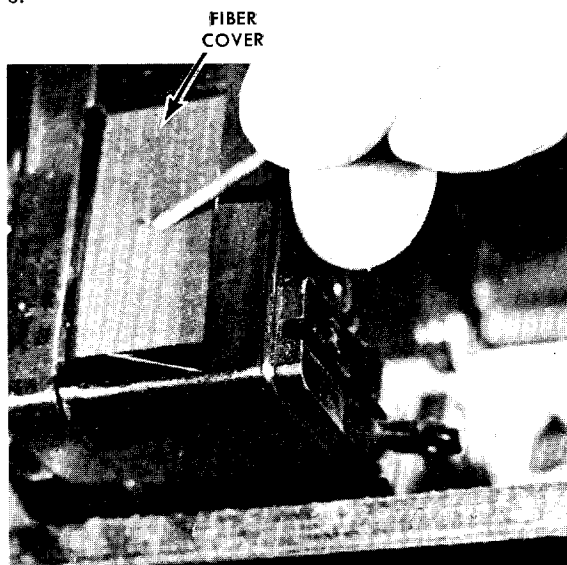

Fig. 6. Removing Fiber Cover
**CAUTION:** Point the piercing tool away from the external magnetic adjustment lever. Pry outward to remove the cover. Fig. 6.
2. Holding core in solenoid (Fig. 6) turn breaker ON.